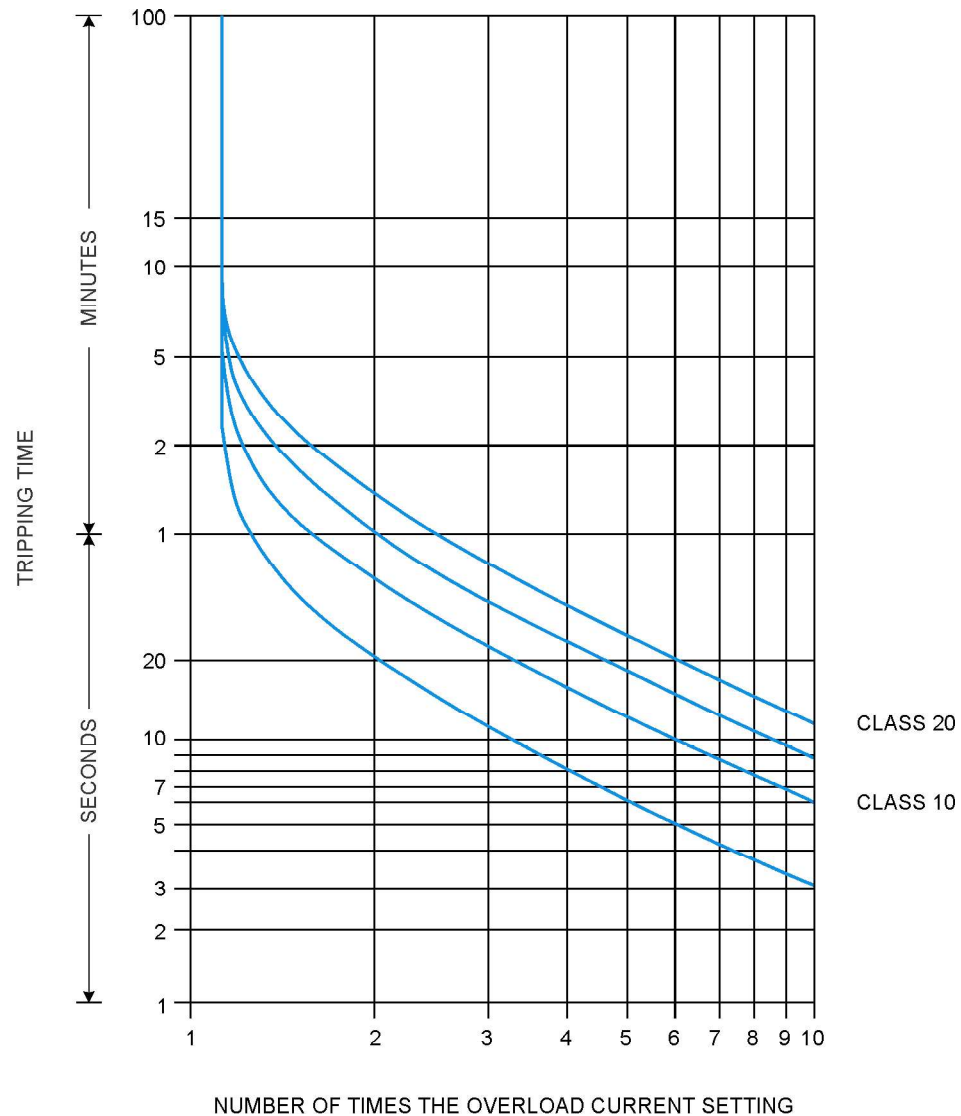
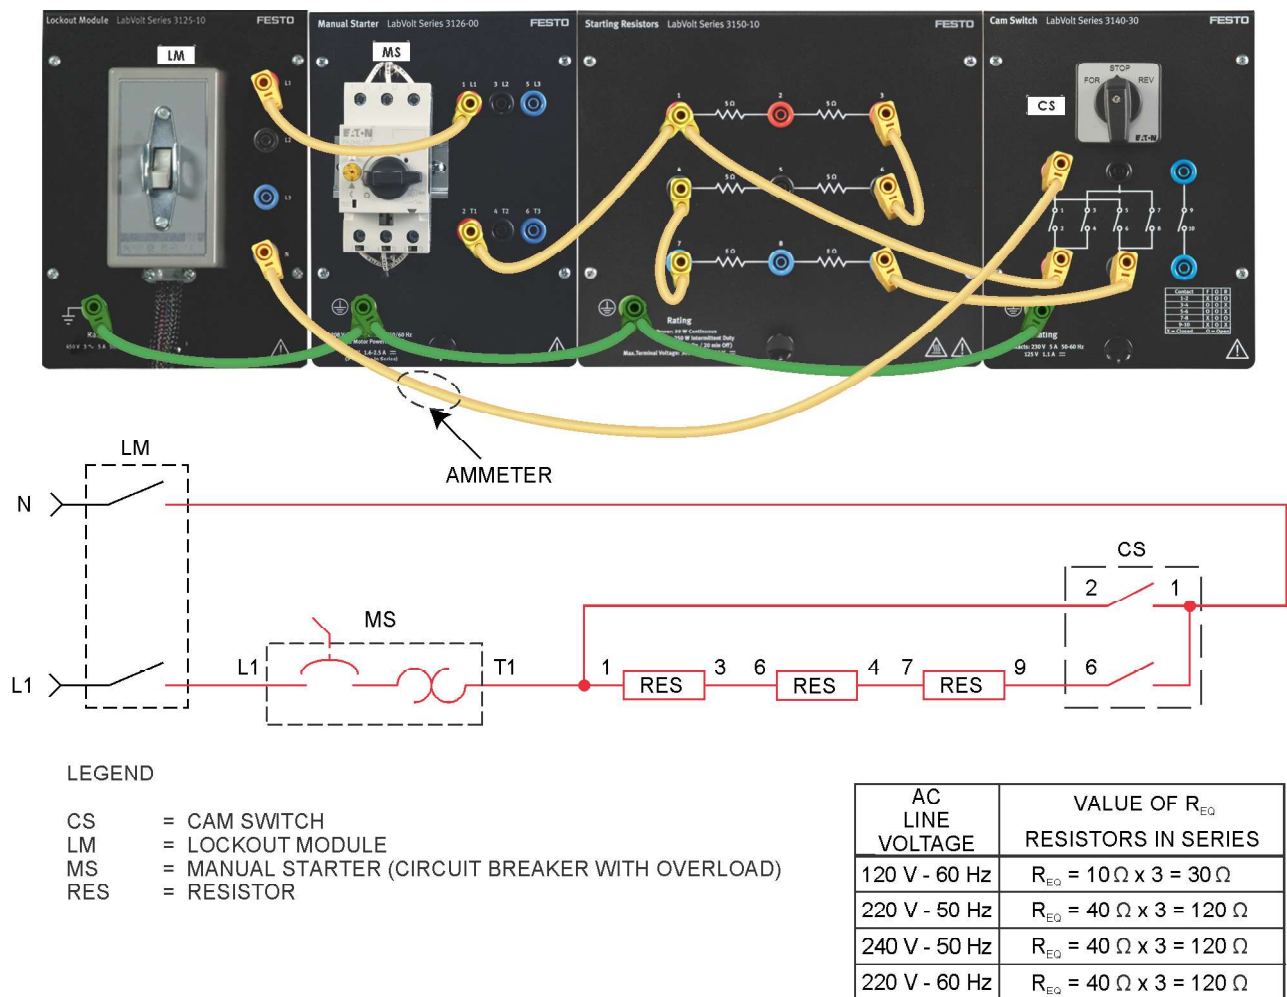

Figure 1-22. Overload classes tripping chart.
Figure 1-25. Manual Starter tripping circuit.
Figure 1-22 shows the tripping time as a function of the ratio between the circuit actual current and the overload relay's current setting for different overload relay classes. This ratio is equal to the number of times by which the circuit actual current exceeds the overload relay's current setting.
2. Connect the circuit shown in Figure 1-25.
Clamp an ammeter around a power lead as shown in Figure 1-25.
10. Referring to Figure 1-22, determine the overload class of the Manual Starter by using the tripping time and current ratio determined from the Figure 1-25 circuit.
11. Referring to Figure 1-22, at six times the overload relay's current setting, how long should the Manual Starter take to trip?
- 15.** Referring to Figure 1-22, how long should it take for the overload relay to trip, when power is applied to the circuit? Use the current ratio calculated in the previous step.